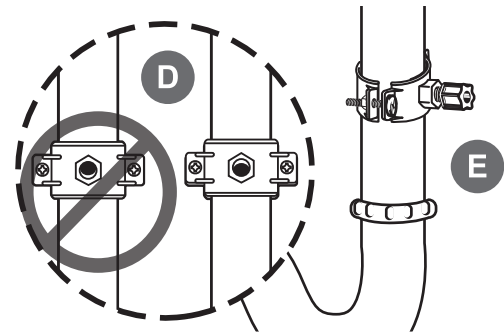

Figure 11
- Make sure the black rubber gasket is adhered to the inside of the drain clamp and place the drain clamp assembly over the drilled hole. Look through the hole and position the clamp so that the center of the clamp hole is slightly higher (about 1/16 inch) than the center of the drilled hole. (See Figure 11). Tighten the clamp securely.